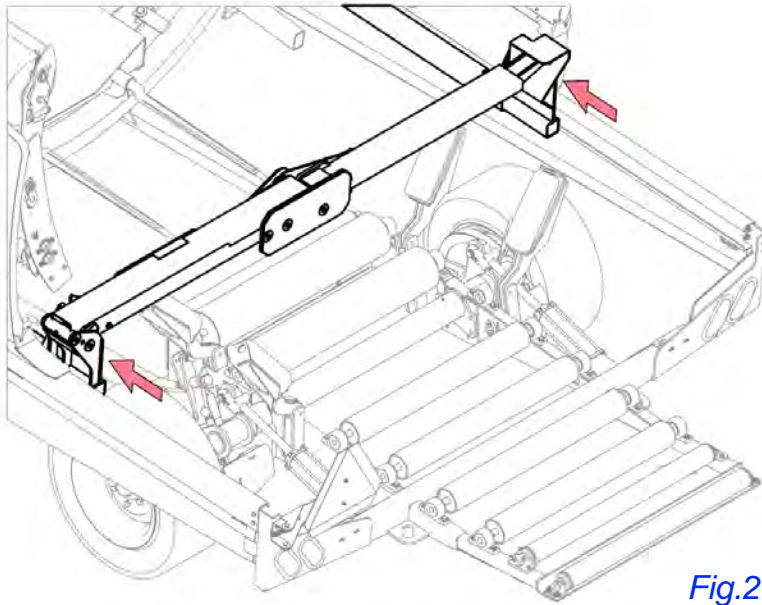

Fig.2
2. Insert right dispatch arm pocket into right ram tube. Lock with existing bolt and nut. See Fig.2.